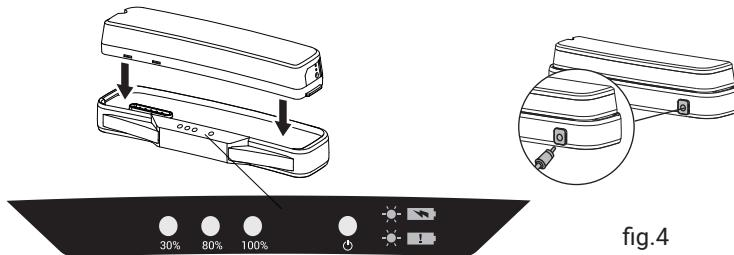

fig.4
- Insert the battery vertically into the charger base and connect it to the power supply. The 100% indicator will illuminate to indicate a fully charged status (See fig.4).
- 1 Right side indicator: green for normal charging, red for battery box issue (See fig.4).